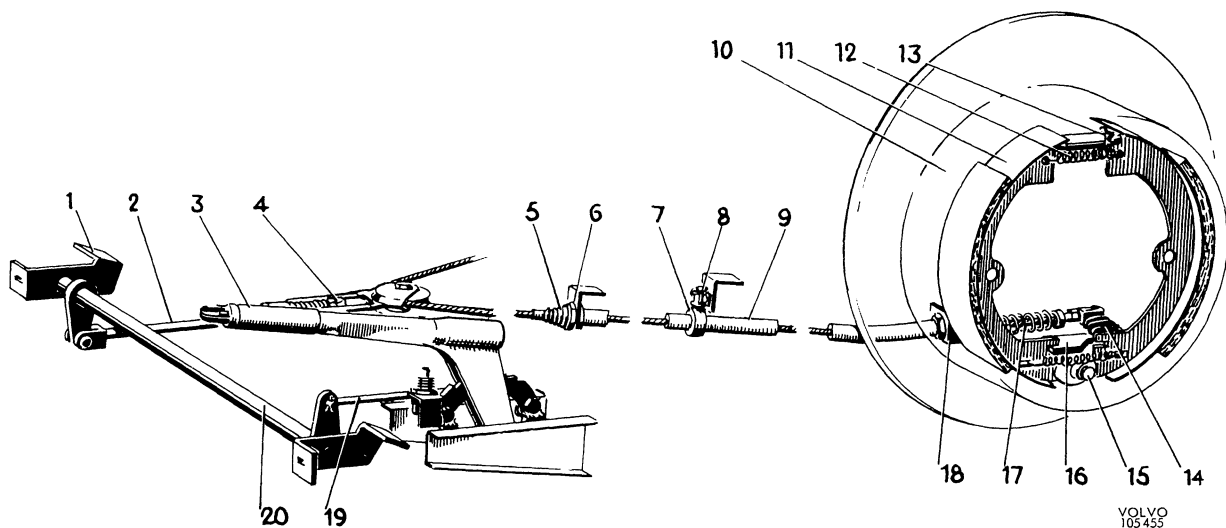

Fig. 5-79. Parking brake
The construction of the parking brake is shown in Fig. 5-79. The parking brake lever is mounted on the floor on the outside of the driving seat. The movement of the lever is transmitted via the shaft (20), pull rod (19), lever and pull rod (2) to the pulley. From here the movement is transmitted through the cable (9) to the rear wheel brake units. At each rear wheel, the movements of the cable influence the lever (16), which is carried in a movable rod (17) on the brake shoes. The lower ends of the brake shoes are held pressed against the anchor bolt (15) by the lower spring. The upper ends are jointed through the adjusting device (13) to which
- Remove the rubber cover (5, Fig. 5-79) for the front attachment of the cable sleeve and the nut as well as the attachment for the rubber suspension ring on the frame member. Remove the cable from the other side of the attachment in the same way.